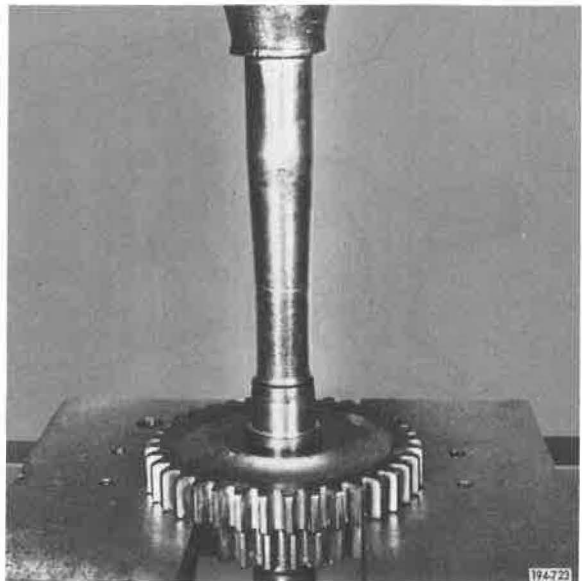

Figure 114. Pressing Off Gear
4. Press off front compound counter-shaft Direct gear. See Figure 114.